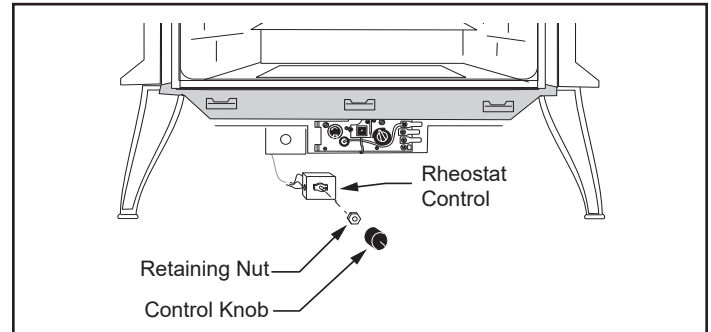

Figure 8 - Attach rheostat to left side of valve.
3. The rheostat control switch attaches to the left side of the valve bracket at the front of the stove, Figure 8.